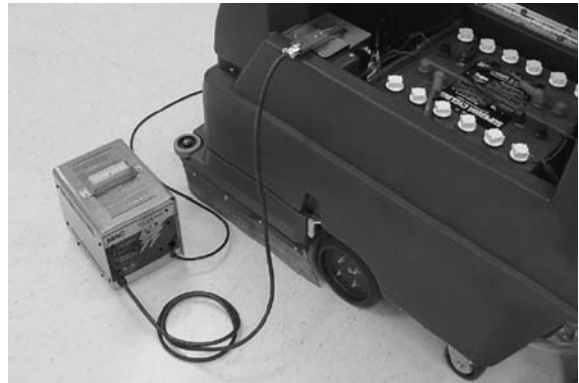

FIG. 29
4. Plug charger's DC output connector to battery connector located near battery compartment (Figure 29).